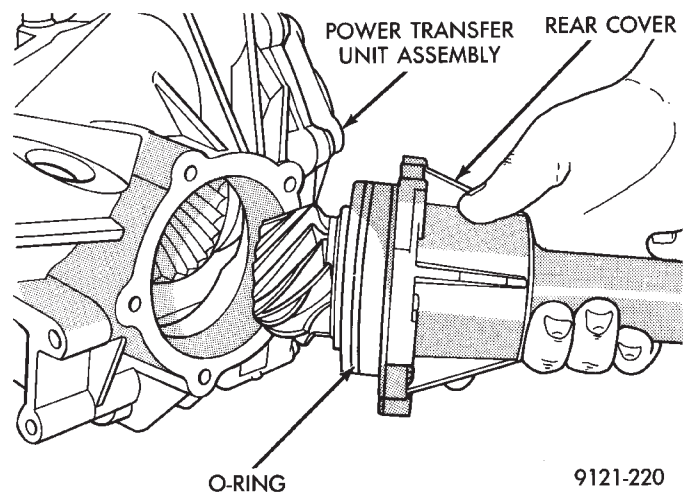

Fig. 3 Rear Cover Removal
- (4) Pull rear cover out of the P.T.U. case (Fig. 3).